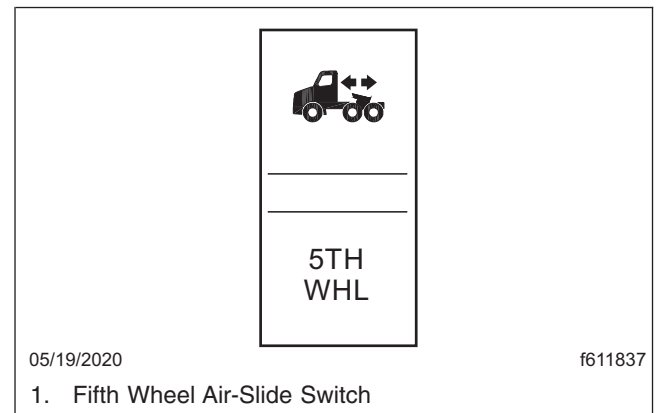
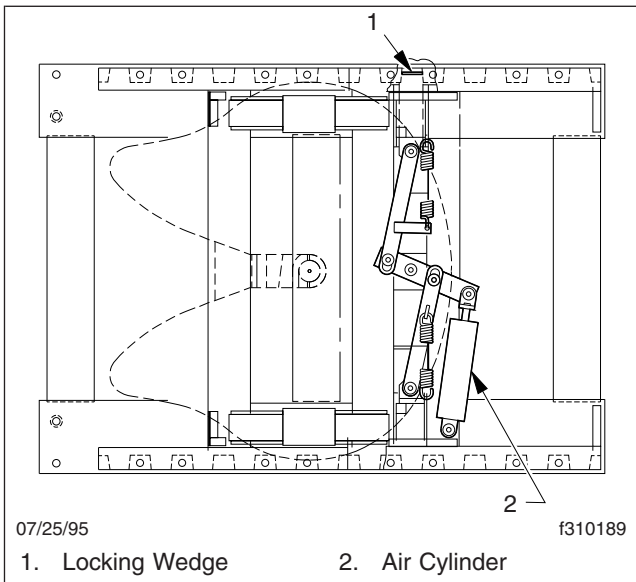

Fig. 18.15, Air-Slide Switch
Fig. 18.16, Air-Operated Sliding Fifth Wheel (Fontaine shown)
The slide feature may be operated with an air switch mounted in the dash, that operates an air cylinder that locks and unlocks the slide. See Fig. 18.15.
- Set the air-slide switch (Fig. 18.15) to SLIDE. Ensure the locking plungers have released. See Fig. 18.16.